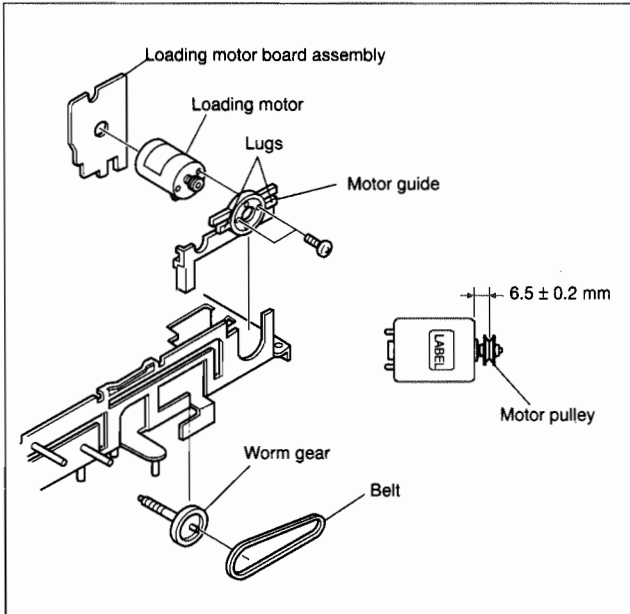

Fig. 2-2-16
- (1) Remove the belt wound around the worm gear.
- (2) Open the two lugs of the motor guide and remove the loading motor, loading motor board assembly and motor guide altogether by pulling them up.
- (3) When replacing the loading motor board assembly, take care with the orientation of the loading motor. (Install so that the loading motor label faces upward.)
- (4) When the motor pulley has been replaced, choose the fitting dimension as indicated in Fig. 2-2-16.